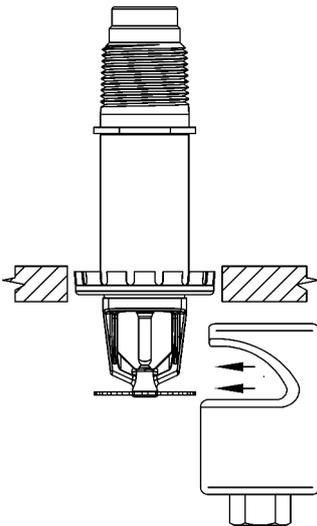

Fig. 5: Applying the sprinkler socket
2. ➔ Slide the socket carefully sideways over the sprinkler (Fig. 5).